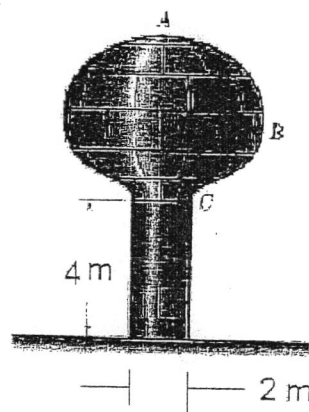

Fig. Q.4
4. The water storage tank as shown in Fig. Q.4. is a shell of revolution and is to be sprayed with two coats of paint which has coverage of 12 m² per litre. The engineer (who remembers mechanics) consults a scale drawing of the tank and determines that the curved line ABC has a length of 10 m and that its centroid is 2.0 m from the centreline of the tank. How many litres of paint will be used for the tank including the vertical cylindrical column? 12